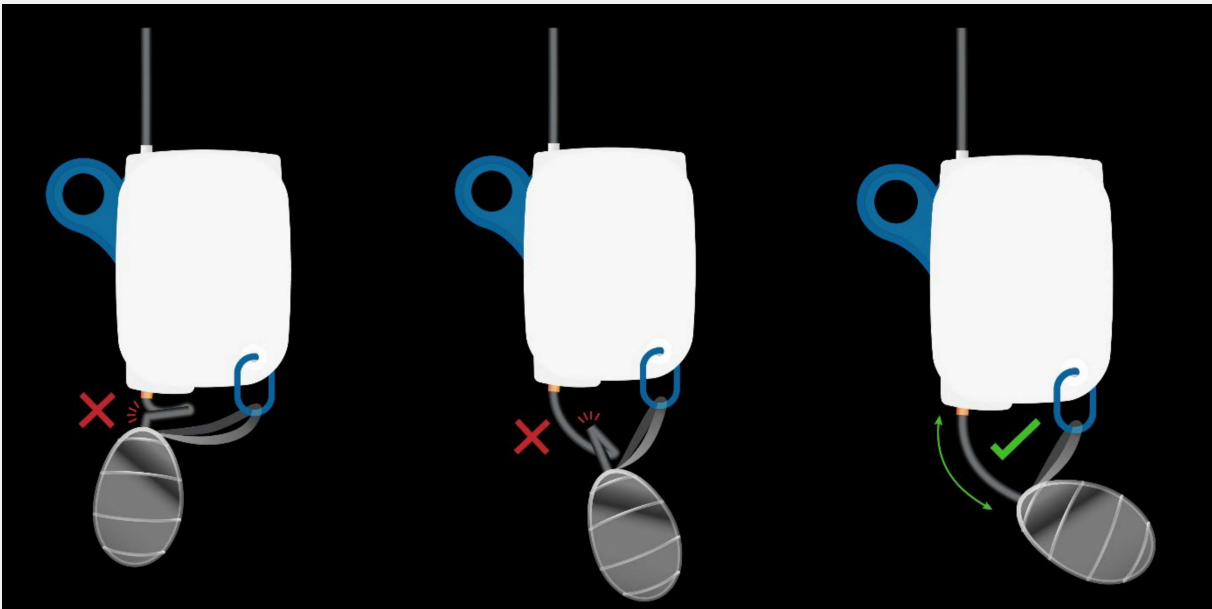

Figure 27: Improper vs. Proper tubing positioning to avoid kinking of flexible tube.
- Always inspect the system to ensure that it is functioning properly. This includes confirming that drainage is flowing as expected through *Origin*™ and tubing in the direction of the evacuator, inspection of the patency of the drainage tubing, inspection of the airtight connection sites, and inspection for the presence of any leaks or kinks in the system (See Figure 27).